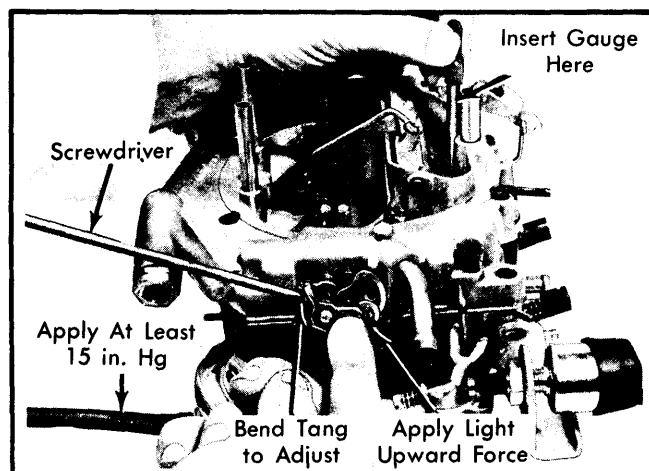

Fig. 10 Adjusting Choke Low Vacuum Kick (International Harvester Models)
1) Remove clamp installed in High Vacuum Kick adjustment. Make sure at least 15 in. Hg is still applied to diaphragm. Apply light upward force to choke control lever to make sure fast idle speed screw is on top step of cam. See Fig. 10.